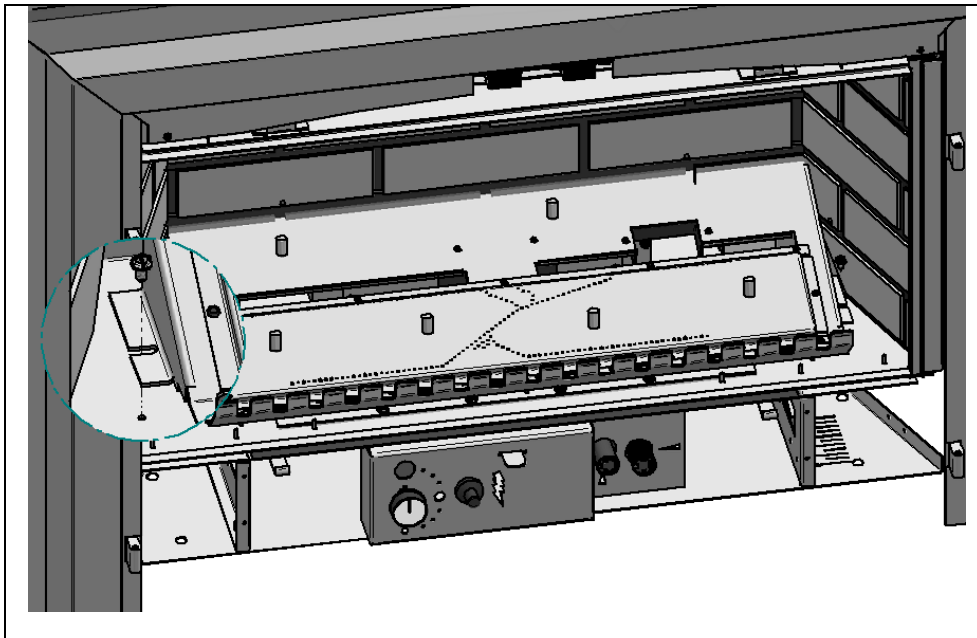

Figure 23
3. Remove the burner (Figure 23).